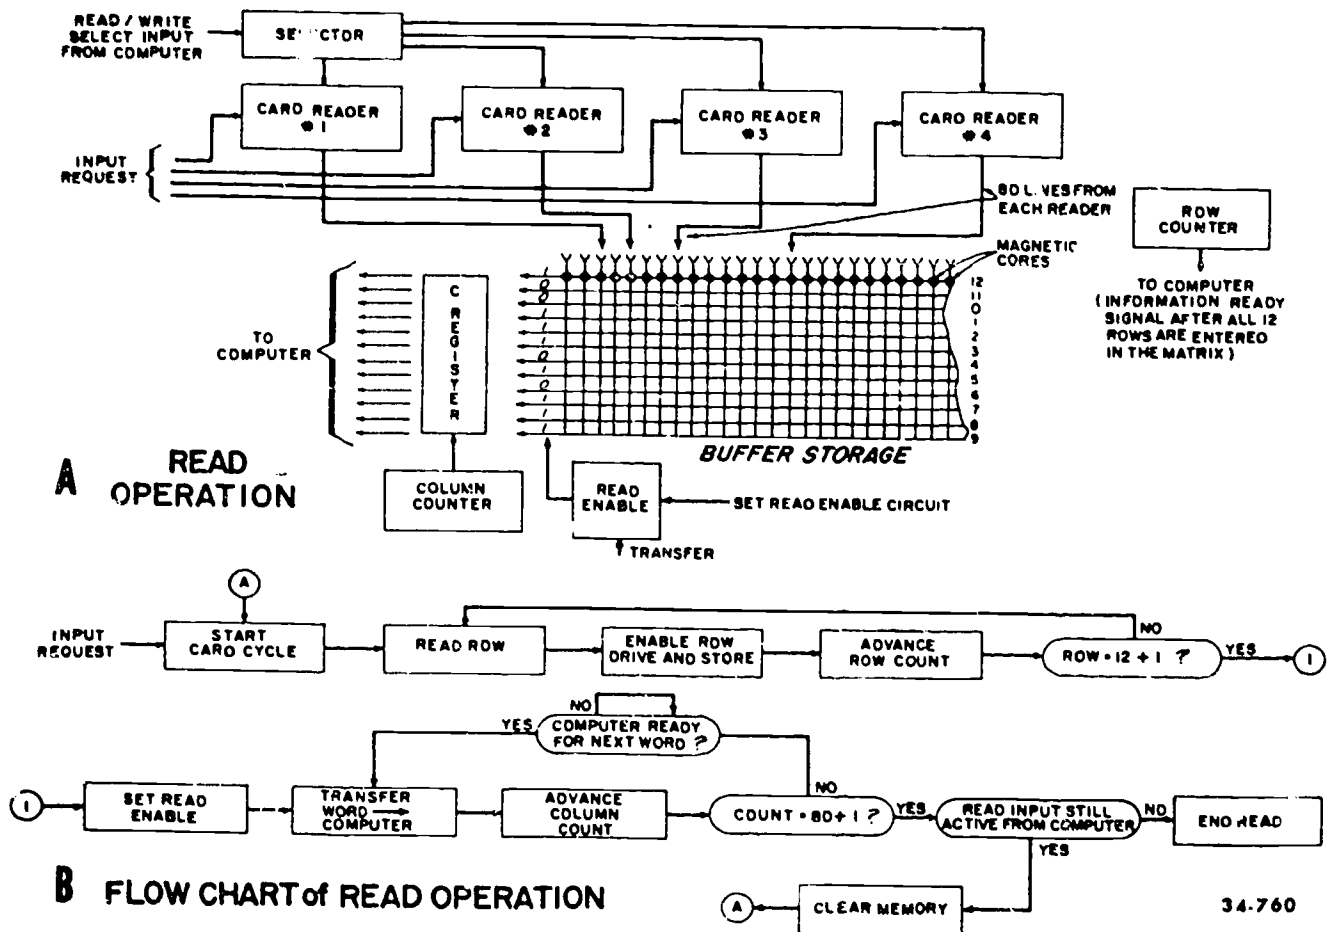

Figure 2-6. Card reading operation using buffer storage.
Using Card Readers with Buffer Storage. Let's look now at a representative method of using card readers with buffer storage. Some card readers are designed for on-line operation with a computer. Furthermore, the computer may be capable of selecting any one of several card readers as the input or output device. The diagram and flow chart in figure 2-6 illustrate one method of reading data from a card reader into the computer memory. Four readers are shown in figure 2-6.
The storage matrix contains 960 cores (only top rows shown in fig. 2-6), each of which can be in either the 0 or 1 state to represent any combination of holes and no holes contained on the card being read. The data is read in (in parallel form) longitudinally across the matrix so that all 1's in the 9's row of the card are entered first. All 1's in the 8's row are entered next, followed by those in rows 7, 6, 5, 4, 3, 2, 1, 0, 11, and 12, in that order.
The flow chart (fig. 2-6,B) shows the read-in process. Upon receiving the "input request" signal from the computer, the order to "start card cycle" is issued (A). The "read row" instruction causes the 9's row to be read at the reading station. After the holes and no-holes, or 1's and 0's in the 9's row are read, the "enable row drive and store" instruction causes the drive lines in the matrix (which correspond with holes in the card) to be activated; and their selected cores are switched to the 1 state. All other cores remain in the 0 state. (The memory matrix is cleared before read-in of each card.)
3. In figure 2-6, what function is performed by the C register?
4. What does the "read row" instruction (fig. 2-6) cause?